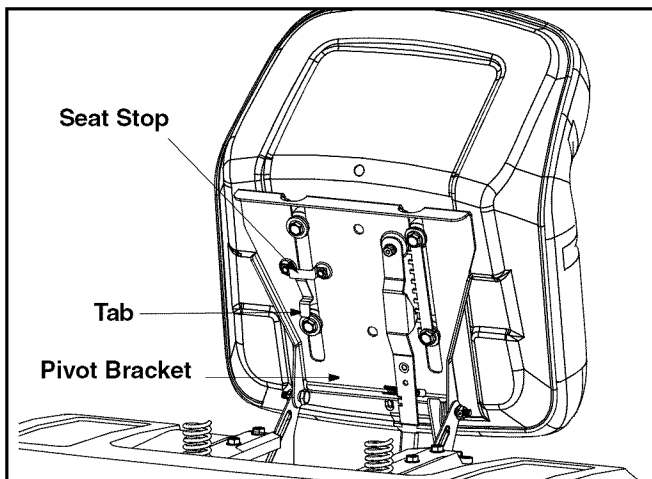

Figure 3
NOTE: For shipping reasons, seats are either fastened to the tractor seat's pivot bracket with a plastic tie, or mounted backward to the pivot bracket. If your seat was shipped mounted backwards on the seat pivot bracket, pull out the tab found on the seat stop and hold it open while sliding the seat off the seat pivot bracket. See Figure 3.
2. Slide seat in until front seat spacer engages the seat stop. See Figure 3.